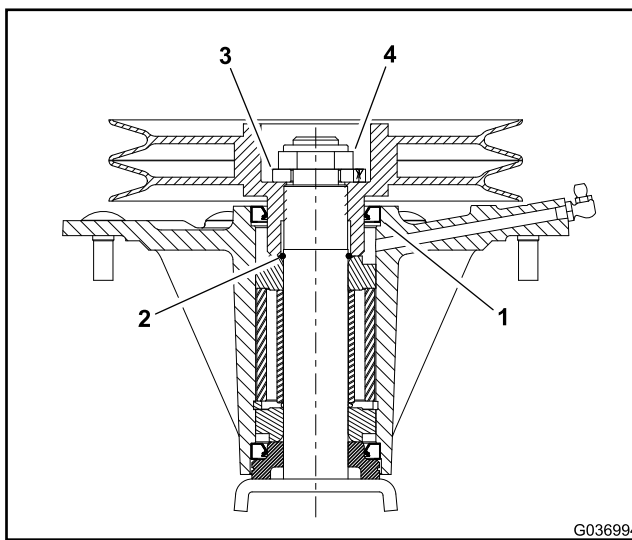

Figure 314
10. Install the O-ring to the top of the spindle shaft (Figure 314).
11. Install the pulley (hub down), special hardened washer, and locknut to the spindle shaft (Figure 314); torque the locknut to **176 to 203 N·m (130 to 150 ft-lb)**.